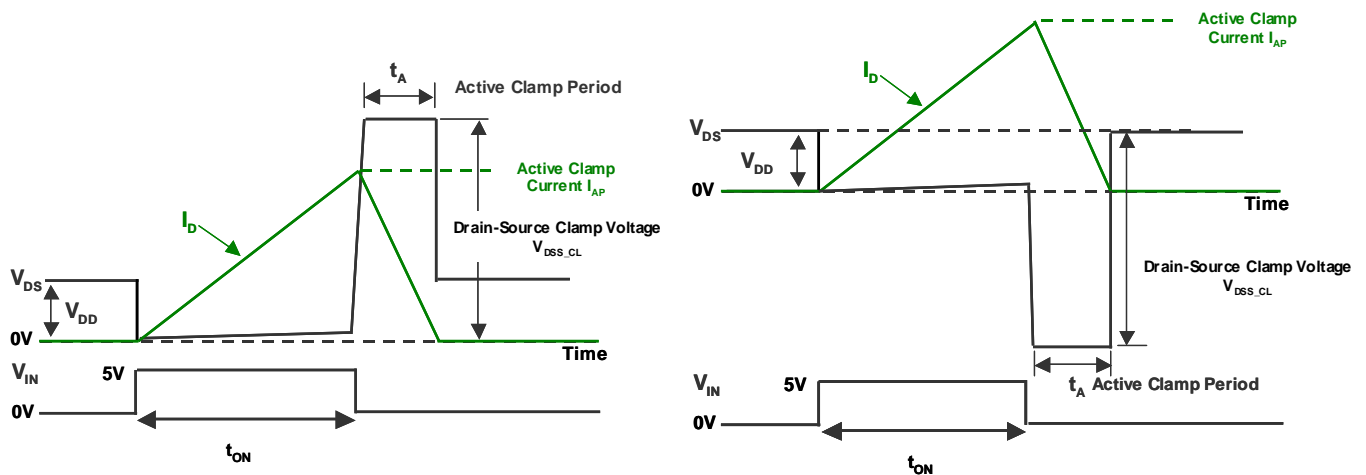

Fig1. Active Clamp Waveform (Left: Low-side Switch / Light High-side Switch)
- IC operation without an external protection parts (Fig 1)